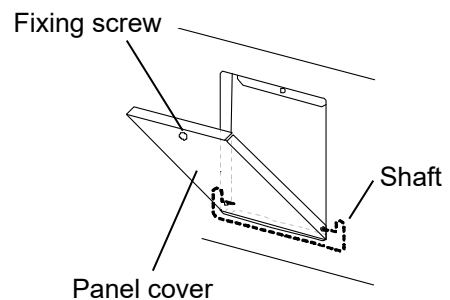

Fig. 1
1. Remove a cap for the fixing screw on the panel cover for the space for a temperature recorder. Remove the fixing screw and open the panel cover. Remove the panel cover by pushing the shaft on both sides outward. [Fig. 1]